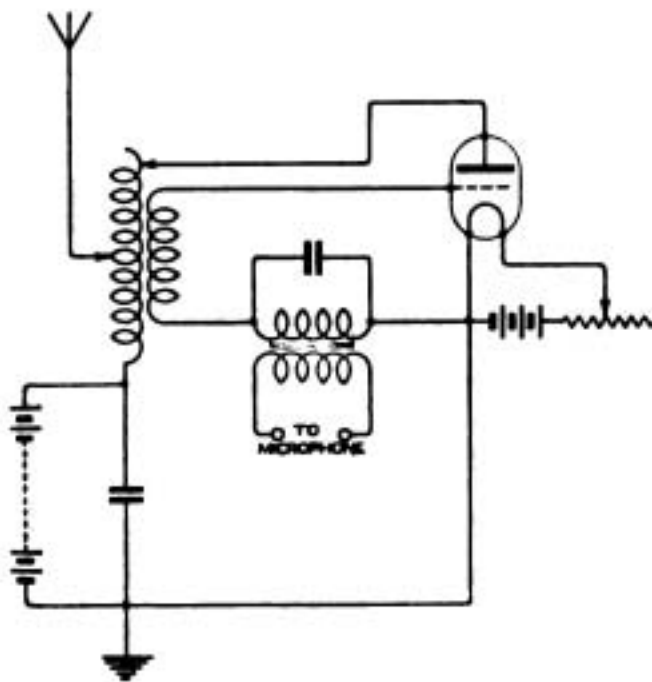

Fig. 1.
**NOTE.**—This section of the magazine is placed at the disposal of all readers who wish to receive advice and information on matters pertaining to both the technical and non-technical sides of wireless work. Readers should comply with the following rules.—(1) Each question should be numbered and written on a separate sheet on one side of the paper only. (2) Queries should be clear and concise. (3) Before sending in their questions readers are advised to search recent numbers to see whether the same queries have not been dealt with before. (4) The Editor cannot undertake to reply to queries by post. (5) All queries must be accompanied by the full name and address of the sender, which is for reference, not for publication. Queries will be answered under the initials and town of the correspondent, or, if so desired, under a "nom de plume." (6) Readers desirous of knowing the conditions of service, etc., for wireless operators will save time by writing direct to the various firms employing operators. (7) Four questions is the maximum which will be accepted at a time.
**L.B. (Bath)** asks (1) What is the station which calls QI on 4,000 metres. (2) For a good circuit for telephony reception. (3) If LP still sends telephony at 12.30 to 13.00. (4) For the simplest circuit for transmitting telephony.
- (1) Probably the P.O. station at Leafield.
- (2) Any receiver with H.F. magnification will give good speech results.
- (3) Times irregular. See Supplement to Jan. 7th issue.
- (4) See diagram Fig. 1.